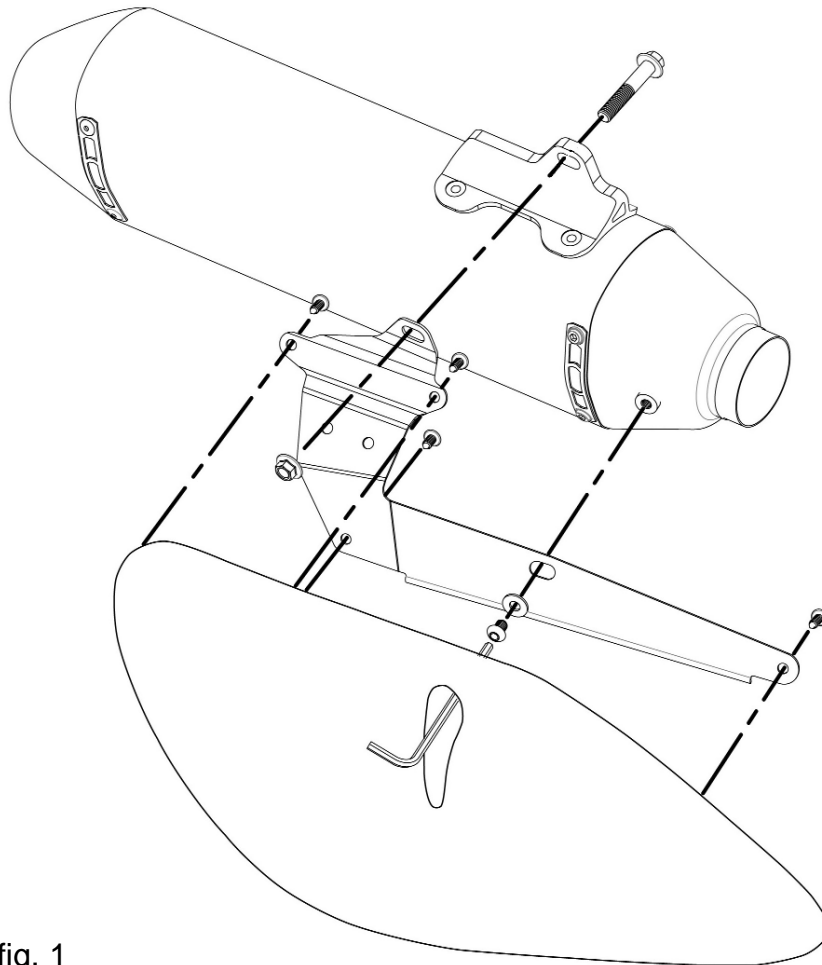

fig. 1
10. Remove the white side panel from the black heatshield by removing the four (4) phillips head screws.
11. Using the four (4) screws removed in step #10, attach the white side panel to the supplied side panel support (fig. 1).
15. Slide the supplied washer onto the supplied 1/4x28 bolt then insert through the hole in the side panel support so the head of the bolt is accessible through the slot in the side panel (fig. 1). Apply a small amount of threadlocker fluid to the threads on the bolt.
16. Loosely thread the 1/4x28 bolt into the mounting boss on the muffler before positioning the side panel support over the muffler mounting bolt. Loosely thread the stock muffler mounting nut removed in step #5 onto the muffler bolt (fig. 1).